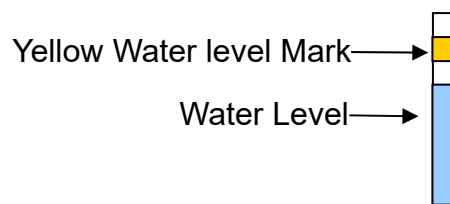

Figure 3
**Caution:** Please fill Distilled Water Only into the unit. Take care not to overfill the yellow water level mark as Figure 3 and Figure 9.